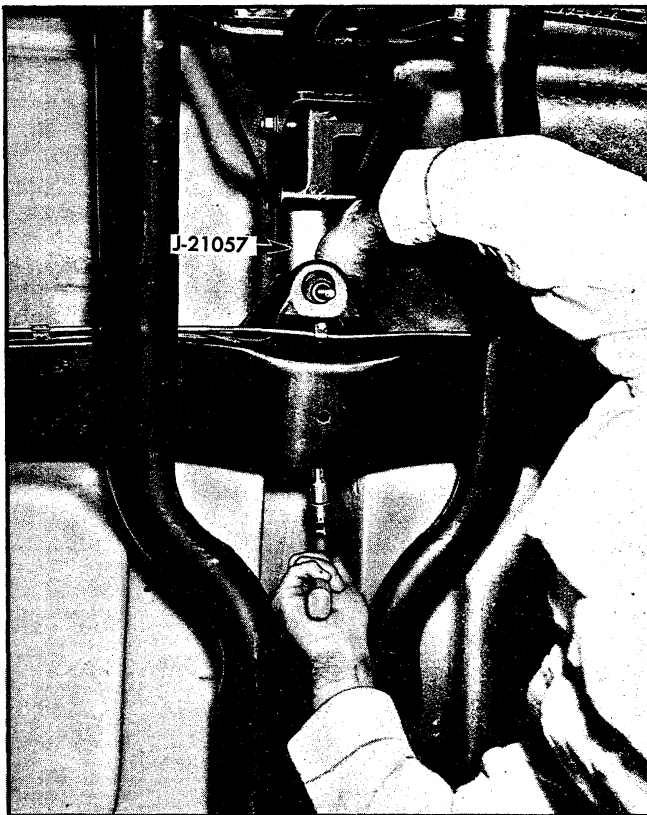

Fig. 94—Installing Pinion Oil Seal
1. Place sealing compound around O.D. of new seal and install seal in carrier using seal installer J-21057 (fig. 94).